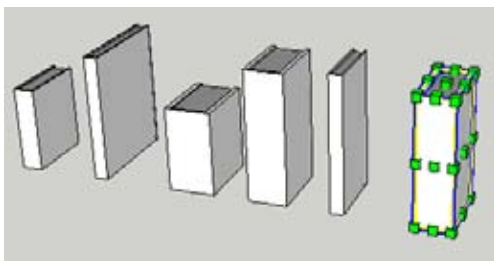

Figure 7-18
3. Make several copies of the book component. To change the size of a book, select it (do not open the component for editing) and activate the Scale tool. Use the drag handles to make the book taller, shorter, thicker, and so on (Figure 7-18).